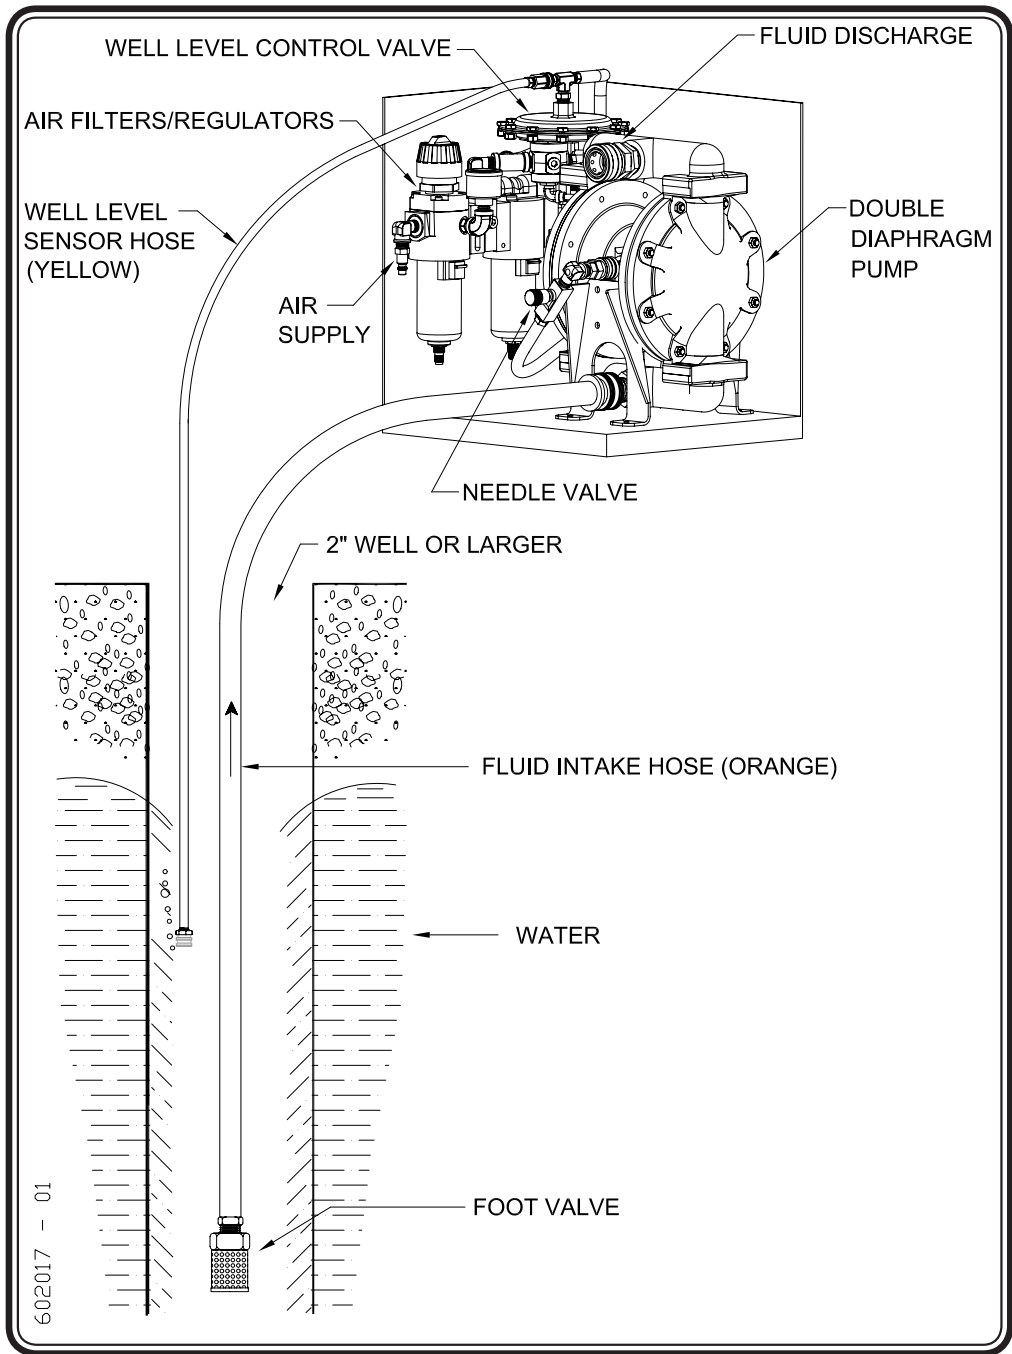

Figure 2 - ADDP System with Foot Valve
- The pneumatic sensor circuit has an **air bubbler** connected to the 1/4 inch **well level sensor hose** via a quick connect. (See Figure 2)
- The **foot valve** placed on the end of the **fluid intake hose** keeps the **DDP** from losing prime by preventing fluid from leaving the hose. (See Figure 2)
- Connect the **FEMALE air hose socket with 3/8 inch MPT** to the air compressor making sure to use the teflon tape on the threads. (See Figure 2)
- Connect the **MALE quick connect on the system air supply hose** to the **FEMALE socket on the air compressor**. (See Figure 2)
- Attach the **FEMALE quick connect on the system air supply hose** to the **MALE air supply quick connect near the air filter on the pneumatic system**. (See Figure 2)
- Connect the MALE quick connect on the **well level sensor hose** to the FEMALE quick connect on the top of the pneumatic system. (See Figure 2)
- The FEMALE end of this hose is positioned in the well or tank from which the fluid is being drawn. This hose end is usually secured about six (6) inches below the desired fluid level. (See Figure 2)
- Connect FEMALE quick connect of the **fluid intake hose** to the MALE DDP quick connect. The MALE end of the **intake hose** with **foot valve** is positioned in the well or tank below the desired fluid level. (See Figure 2)
- Connect the MALE quick connect of the **fluid discharge hose** to the FEMALE DDP quick connect. The FEMALE end of the **discharge hose** leads to a **fluid discharge point**. (See Figure 2)